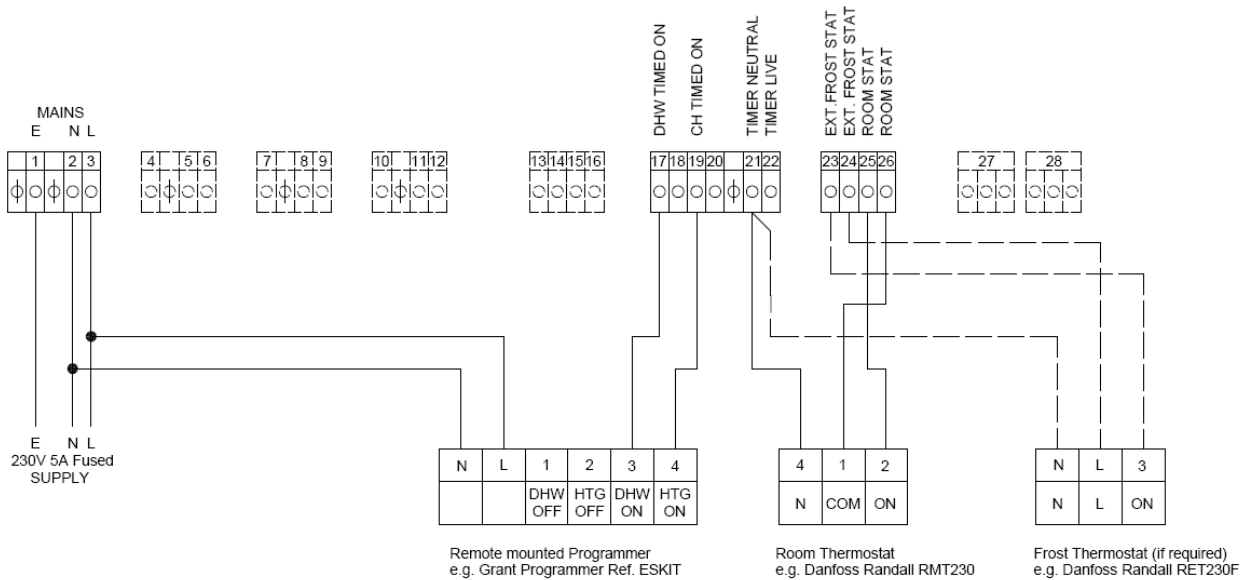

Fig.6. Connections for remote Grant 2-channel Programmer (ESKIT) and Room Thermostat
2. Remove the **Red** link wire from terminals 17 & 18 and the **Black** link wire from terminals 19 & 20 on the connection block. Connect the two wires from the programmer to terminals 17 & 19. Refer to Fig.6.
3. Connect the live, neutral (and earth if required) from the programmer to terminals 3, 2 & 1 respectively on the boiler terminal block. Refer to Fig.6 for further details.